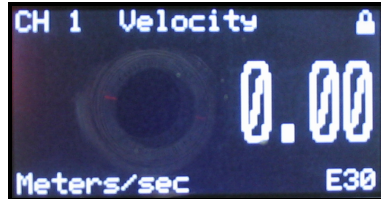

Figure 35: Screen with Locked Program
6. Press **[ESC]** to return to the User Program, or continue pressing **[ESC]** to return to the display screen. If you have chosen to fully lock the Sentinel LCT, the screen appears similar to Figure 35 below, with a solid lock in the upper right corner. (For a meter with only the user program locked, the lock shows a keyhole in the center.)